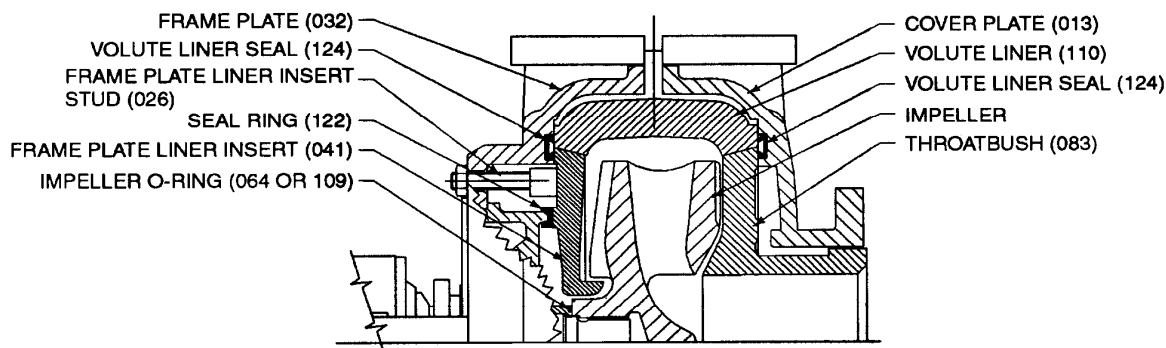

Figure 6-3 • Pump Assembly – Metal Liners (3 Parts)
1. Apply rubber cement in expeller or shaft spacer groove. Depending on pump type, fit either IMPELLER O-RING (064) or (217), or SHAFT SLEEVE O-RING (109) into the expeller as shown in *Figure 6-3*. Make sure that o-ring is held in position.
2. Fit SEAL RING (122). There are two different type seals.
3. Fit VOLUME FRAME SEAL (124). The seal is of C-section and it is actuated by internal pressure. Fit it (flat face in) into the frame plate groove. Use rubber cement to hold the seal in position, avoiding the possibility of the seal shifting when the frame plate liner is attached.
4. Fit FRAME PLATE LINER INSERT (041) and IMPELLER.